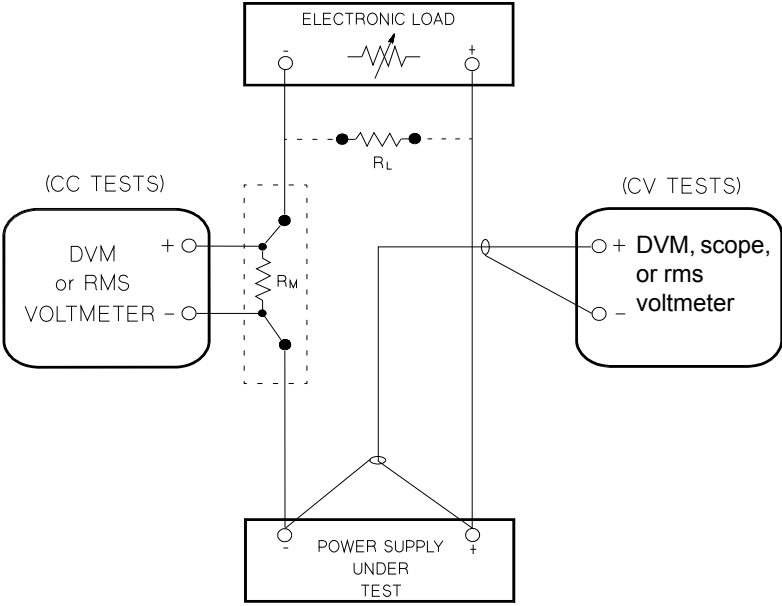
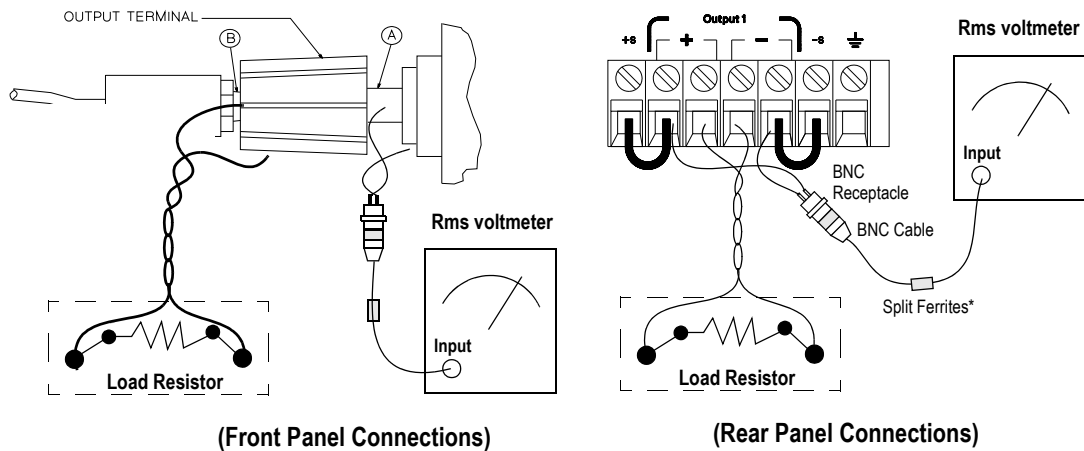

Figure 8-2 Performance verification test setup
Figure 8-4 CV PARD (ripple and noise)
Most tests are performed at the front terminals as shown in Figure 8-2. Measure the DC voltage directly at the (+) and (-) terminals on the front panel.
To eliminate the output current measurement error caused by the voltage drops in the leads and connections, connect the current-monitoring resistor between the (-) output terminal and the load as a four-terminal device. Connect the current-monitoring leads inside the load-lead connections directly at the monitoring points on the resistor element (Refer to R_M in Figure 8-2).
- 1 Turn off the power supply and connect a digital voltmeter between the (+) and (-) terminals of the output to be tested as shown in Figure 8-2.
- 1 Turn off the power supply and connect a digital voltmeter between the (+) and (-) terminals of the output as shown in Figure 8-2.
For better measurement results, it is recommended to make the connection between the BNC receptacle and the output terminals as short as possible, and to use the recommended split ferrites with the BNC-to-BNC cable as shown in Figure 8-4.
- 1 Turn off the power supply and connect the output to be tested as shown in Figure 8-2 to an oscilloscope (AC coupled) between the (+) and (-) terminals. Set the oscilloscope to the AC mode and bandwidth limit to 20 MHz. Connect a resistive load (13.5Ω)^[1] to the terminal at **B** as shown in Figure 8-4.
- 5 Disconnect the oscilloscope and connect the AC rms voltmeter in its place according to the “V_{rms} measurement techniques” on page 200 and as shown in Figure 8-4. The rms voltage reading must not exceed the rms limit of 0.5 mV^[3] or 1 mV^[4].
- 1 Turn off the power supply and connect the output to be tested as shown in Figure 8-2 with an oscilloscope. Operate the electronic load in the constant current mode.